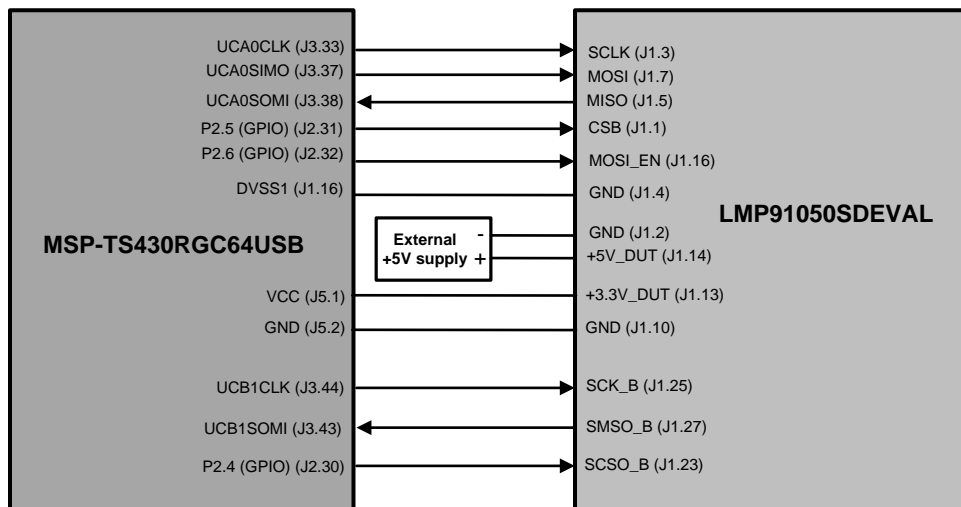

Figure 2. LMP91050SDEVAL to MSP430 Connection Diagram
9. Connect the LMP91050 Evaluation Board SPI interface lines to the MSP430 target board SPI port as shown in Figure 2. Note that the USCIA0 pins of the MSP430 are used to control the LMP91050 SPI pins.
10. Also, connect the ADC141S628 SPI interface lines of the LMP91050SDEVAL to the MSP430 target board SPI port as shown in Figure 2. The USCIB1 pins of the MSP430 are used to control the ADC141S628 SPI pins.